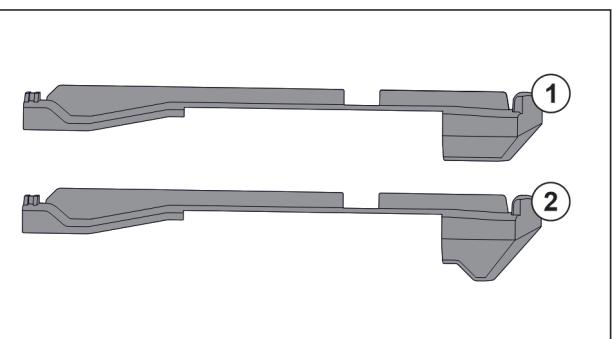

Fig. 78 Comparing attachments
There are two different attachments in the appliance. The attachment above the lowest drawer Fig. 78 (2) has a three-cornered edge. All other attachments Fig. 78 (1) have a straight edge.
- ▶ Fit attachment Fig. 78 (2) with the three-cornered edge above the lowest drawer.
- ▶ Fit attachment *Fig. 78 (1)* with straight edge in all other positions.